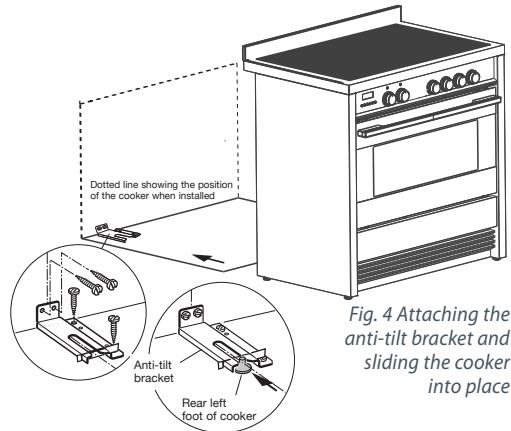

Fig. 4 Attaching the anti-tilt bracket and sliding the cooker into place
- 1 Drill four 8mm diameter holes for the fixing screws (two in the wall and two in the floor-see Fig.4) and insert the plastic plugs supplied.
- 2 Attach the anti-tilt bracket to the floor and rear wall using the four screws supplied, as shown in Fig. 4.
- 3 After attaching the anti-tilt bracket securely, slide the cooker into place. Ensure that the left rear foot slides under the bracket, as shown in Fig.4.